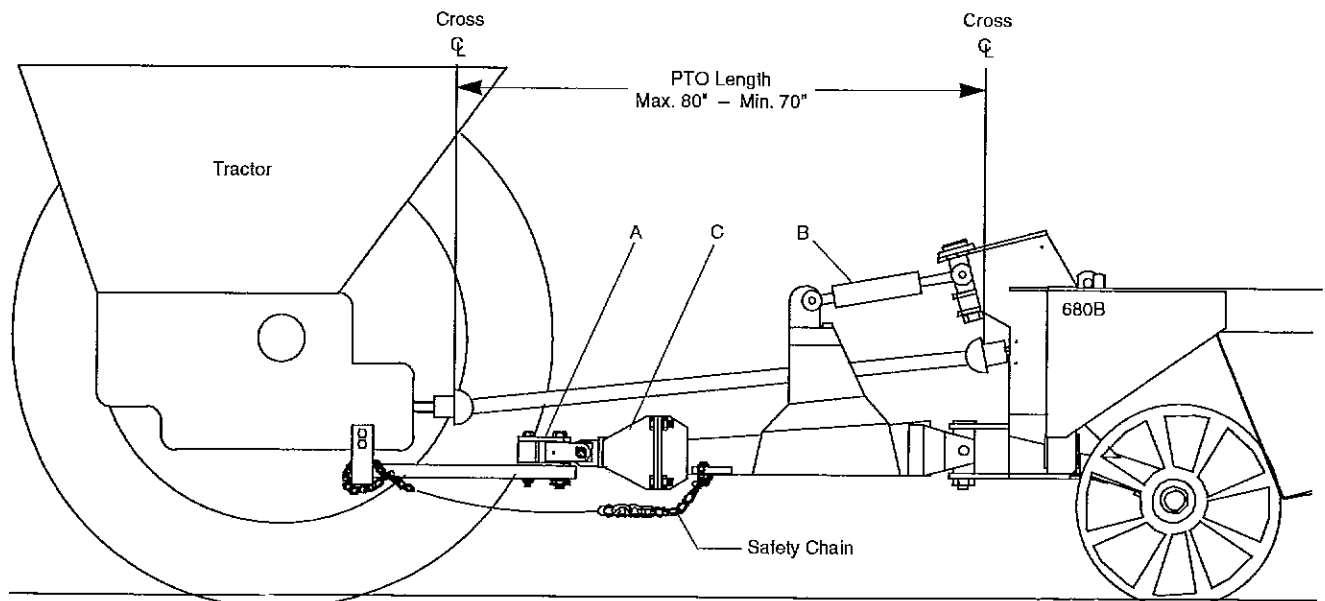

FIGURE 3 - HITCHING TO TRACTOR
- Proper PTO installation (see figure 3).
Position tractor near harvester hitch, attach lift cylinder hoses to the tractor outlets, activate cylinder and lift harvester hitch above tractor hitch (see figure 3).
Set tractor drawbar at 16" (as close as possible) from end of PTO to center of drawbar attaching hole for both 1-3/8" and 1-3/4" PTO's. The driveline when hooked to tractor should measure between 70" and 80" between centers of universal crosses (see figure 3).
2. Attach safety chain from tractor to drawbar (see figure 3, page 9).
Be sure tractor drawbar is set so that PTO driveline runs at the length specified (see figure 3, page 9).